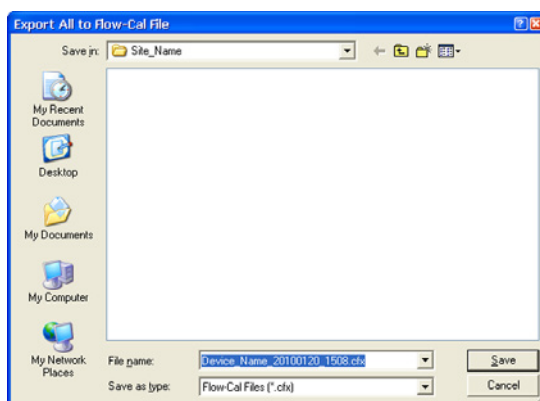

Figure 14.41
2. An Export All to Flow-Cal File or Export All to PGAS Files window will appear (Figure 14.41, page 207). To change the file path and/or file name from the defaults listed below, browse to the desired file